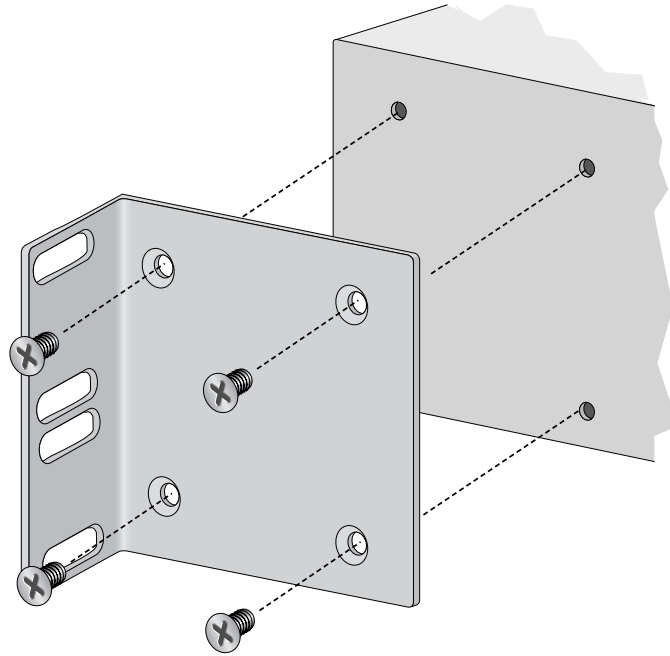

Figure 23 Attaching a Rack-mounting Bracket
1. Attach a rack-mounting bracket to one side of the switch using four of the screws that came with the switch. See Figure 23.